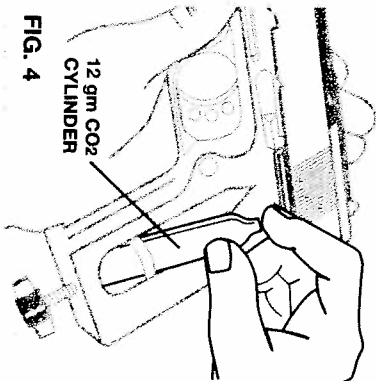

FIG. 4
4. Insert the CO2 cylinder into the grip, first placing the larger end of the CO2 cylinder into the lower portion of the grip (see Fig. 4).